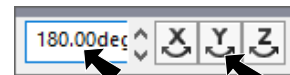

Fig. 2
Step 6. Set **rotate 180° Y**  in rotate context toolbar, Fig. 2.